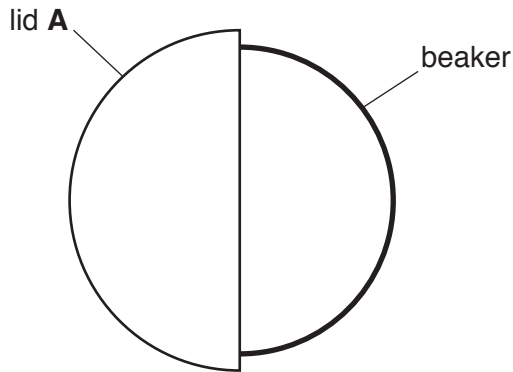
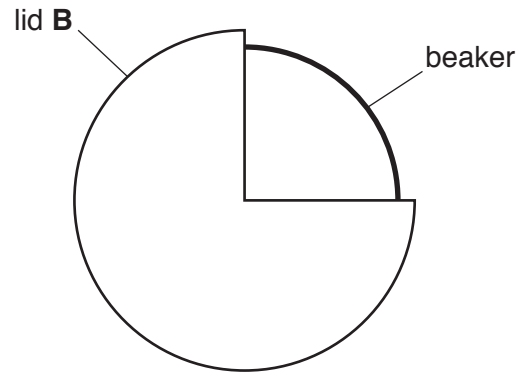

Fig. 1.2
Fig. 1.3
2. Thin cardboard is a suitable material for the lids. Lid **A** and lid **B** must be cut to shape as shown in Fig. 1.2 and Fig. 1.3. They must each be stable when partly covering the beaker as shown.